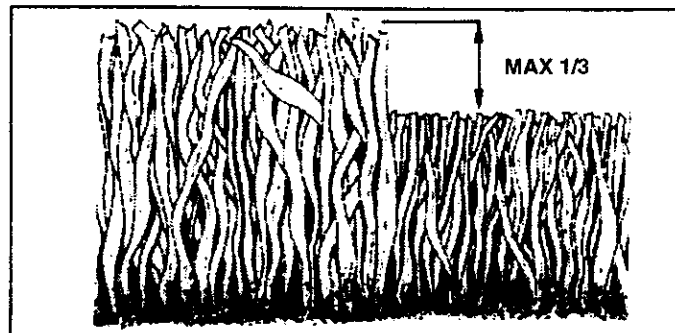

FIG. 12
- For best results, adjust the mower cutting height so that the mower cuts off only the top one-third of the grass blades (See Fig. 12). For extremely heavy mulching reduce your width of cut on each pass and mow slowly.